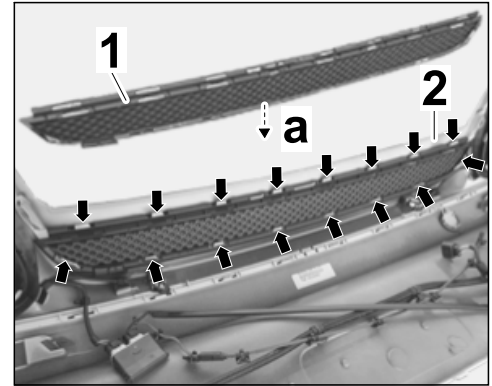

Figure 10
- 2.8 Clip center grille ⇒ *Figure 10-1*- into new rear skirt ⇒ *Figure 10-2*- (⇒ *Figure 10-a*-).
Make sure that the clips ⇒ *Figure 10*-**arrows**- lock securely.